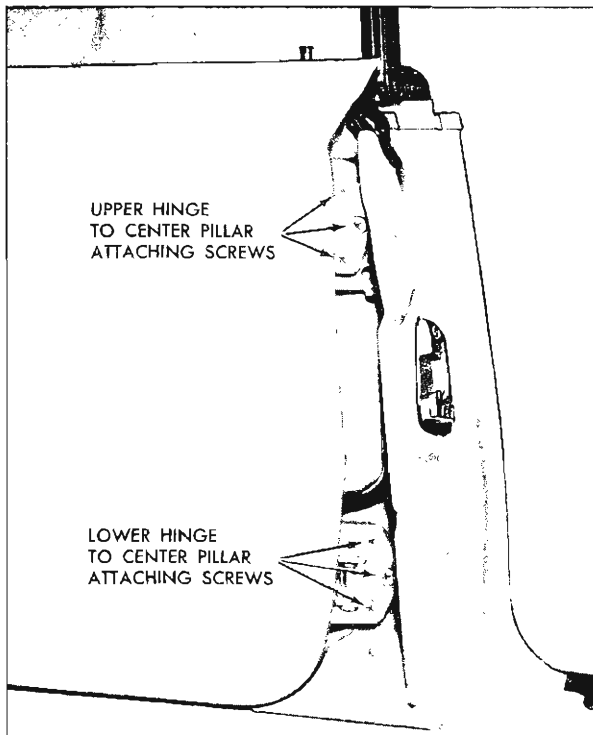

Fig. 3-36 Door to Pillar Attachment
4. With door properly supported, remove three (3) upper and three (3) lower hinge attaching screws at door hinge pillar or center pillar depending on method of removal (Fig. 3-36 and 3-37).
2. To adjust door fore or aft, loosen hinge to center pillar attaching screws (Fig. 3-36). Adjust door fore or aft as required and tighten screws and bolts.